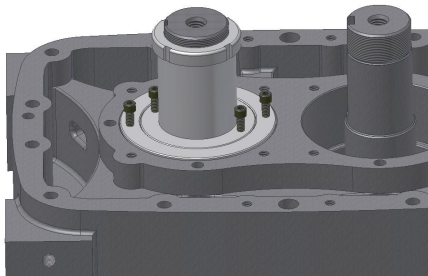

Figure 7-8 – FALSE BEARING INSTALLATION
28. Place false bearing assembly EQ144211-5 over idler rotor shaft and into bearing bore. Reference FIGURE 7-8.